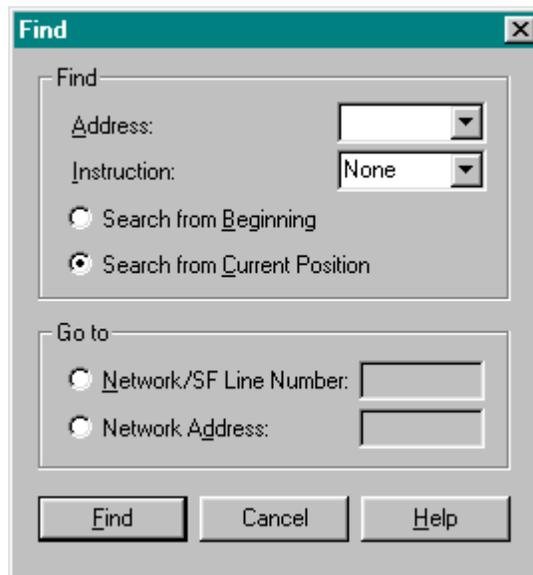

Figure 6.6
1. Click  on the toolbar or select Find from the Edit menu (Ctrl+F), and the Find dialog box appears (Figure 6.6).
1. Click  on the toolbar or select **F**ind from the **E**dit menu (Ctrl+F), and the Find dialog box appears (Figure 6.6).